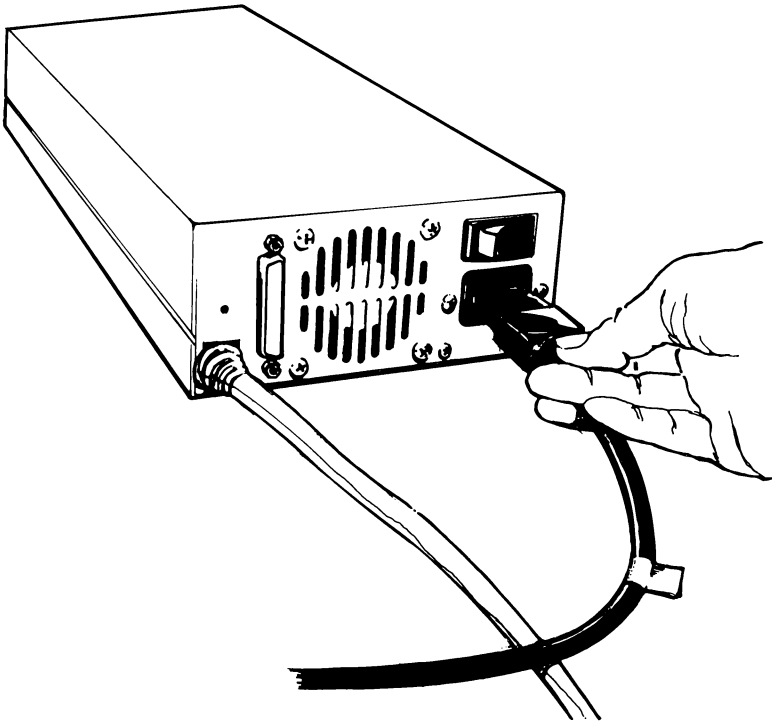

Figure 3
- 4) Connect the power cable to the power supply connector on the rear of the tape drive (Figure 3).